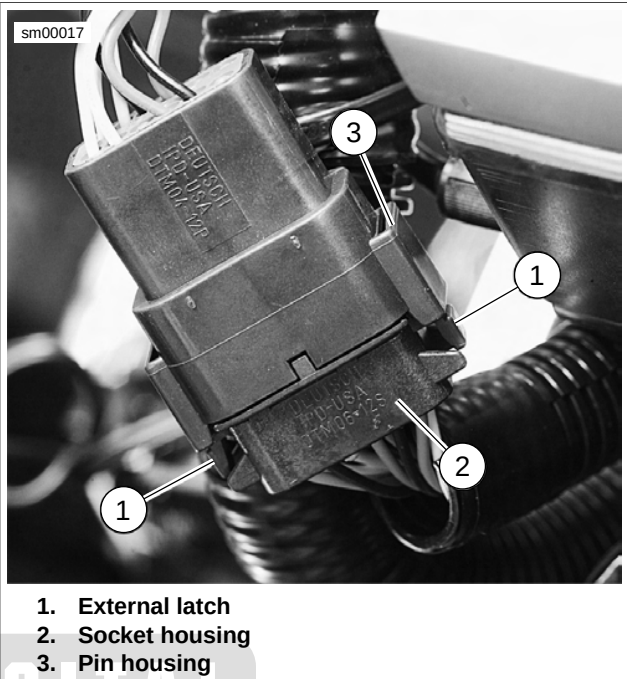

Figure A-14. Deutsch Connector
See Figure A-14. To separate the connector halves, depress the external latch(es) (1) on the socket housing (2) while rocking the pin (3) and socket housings.